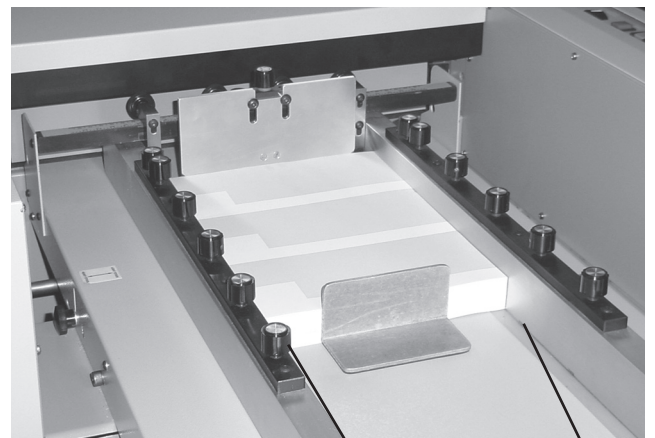

Fig 18 Air Blast Control Knobs Air Blast Openings
2. Turn on the air/vacuum pump. The air should float the bottom of the paper stack approximately 1/16 to 1/8" (1.6 to 3.2mm). Air blast can be controlled by adjusting the knobs located on the side/pile guides (Fig. 18).